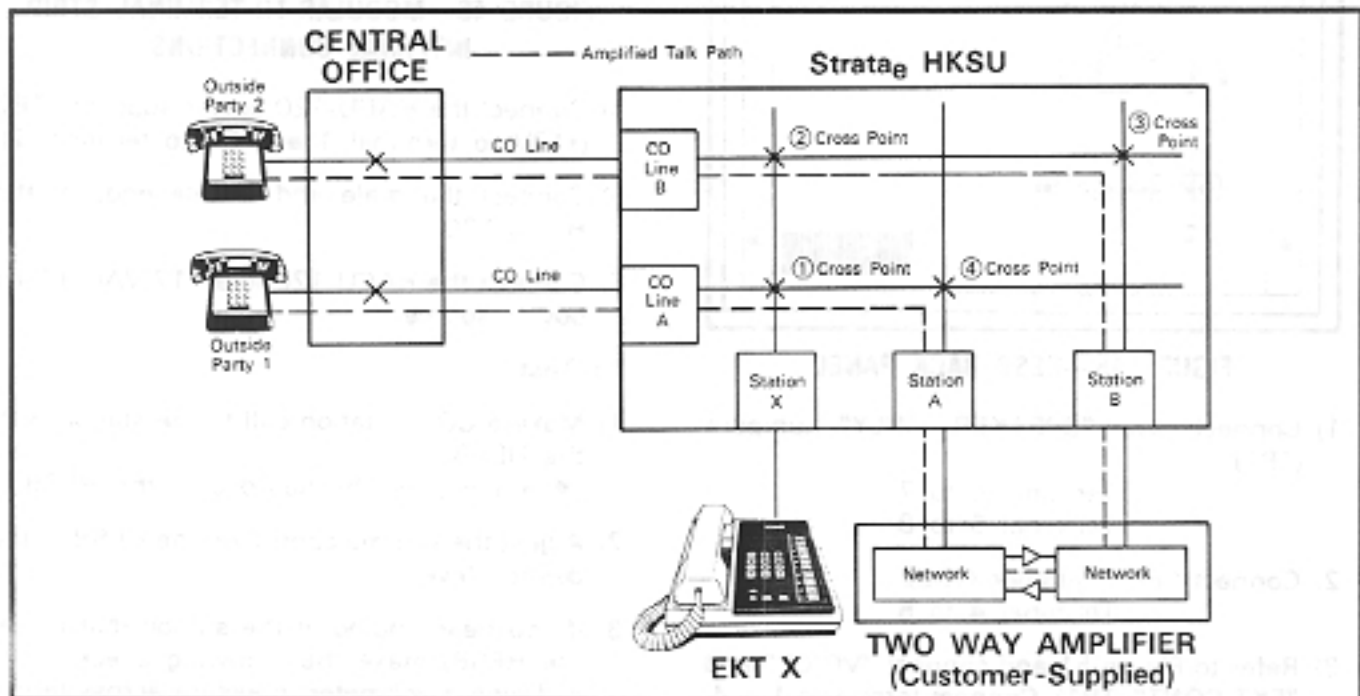

FIGURE 44—AMPLIFIED CONFERENCE FUNCTIONAL BLOCK DIAGRAM
09.82 Cabling: Refer to Figure 44 and the amplifier's installation procedures from the manufacturer and connect each amplifier between the voice leads (T and R) of stations 16/17 (Se only) and 18/19 & 24/25 (Vle only).